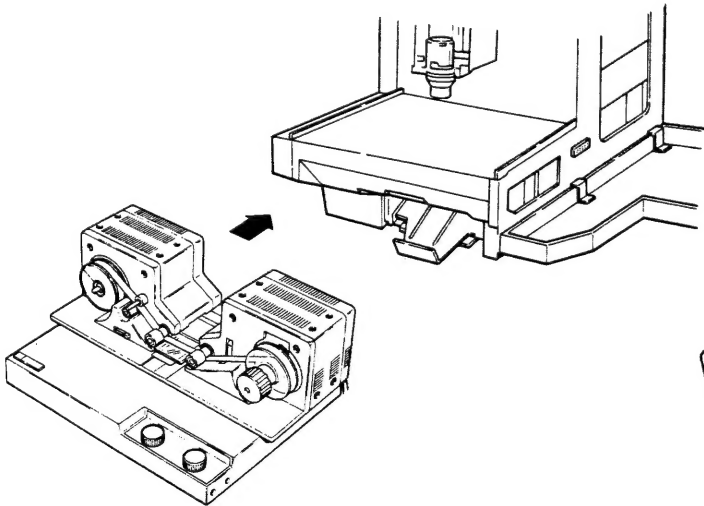

Figure 2-2C
5. Align the Roll Film Transport within the track of the Accessory Table of the Reader-Printer and push the Roll Film Transport in until the Latches engage (Figure 2-2C).